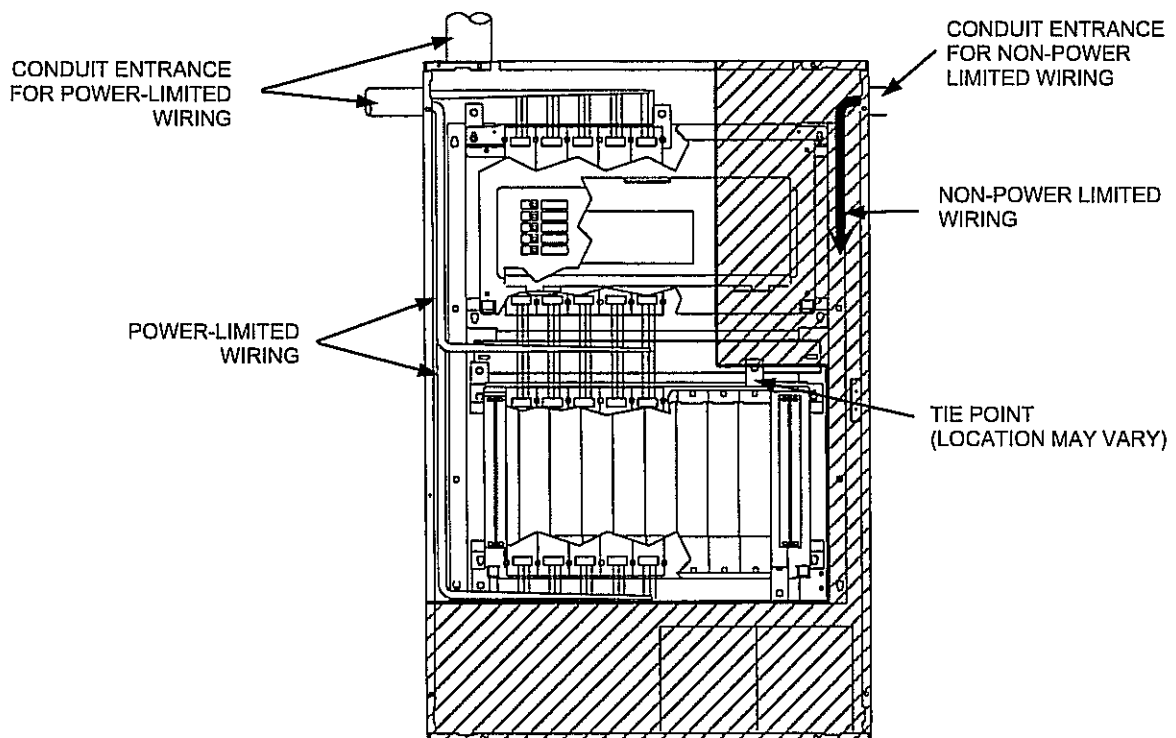

Figure 10. Power-Limited Wiring
- Non-power limited field wiring (AC power, batteries, City connection) must be installed and routed in the shaded areas shown in Figure 10.
- Power-limited field wiring must be installed and routed in the non-shaded areas shown in Figure 10, with the exception of City wiring.
- Excess slack should be kept to a minimum inside the back box enclosure. The wiring should be neatly dressed and bundled together using the wire ties provided with the equipment. Anchor power-limited wiring to tie points, as shown in Figure 10.